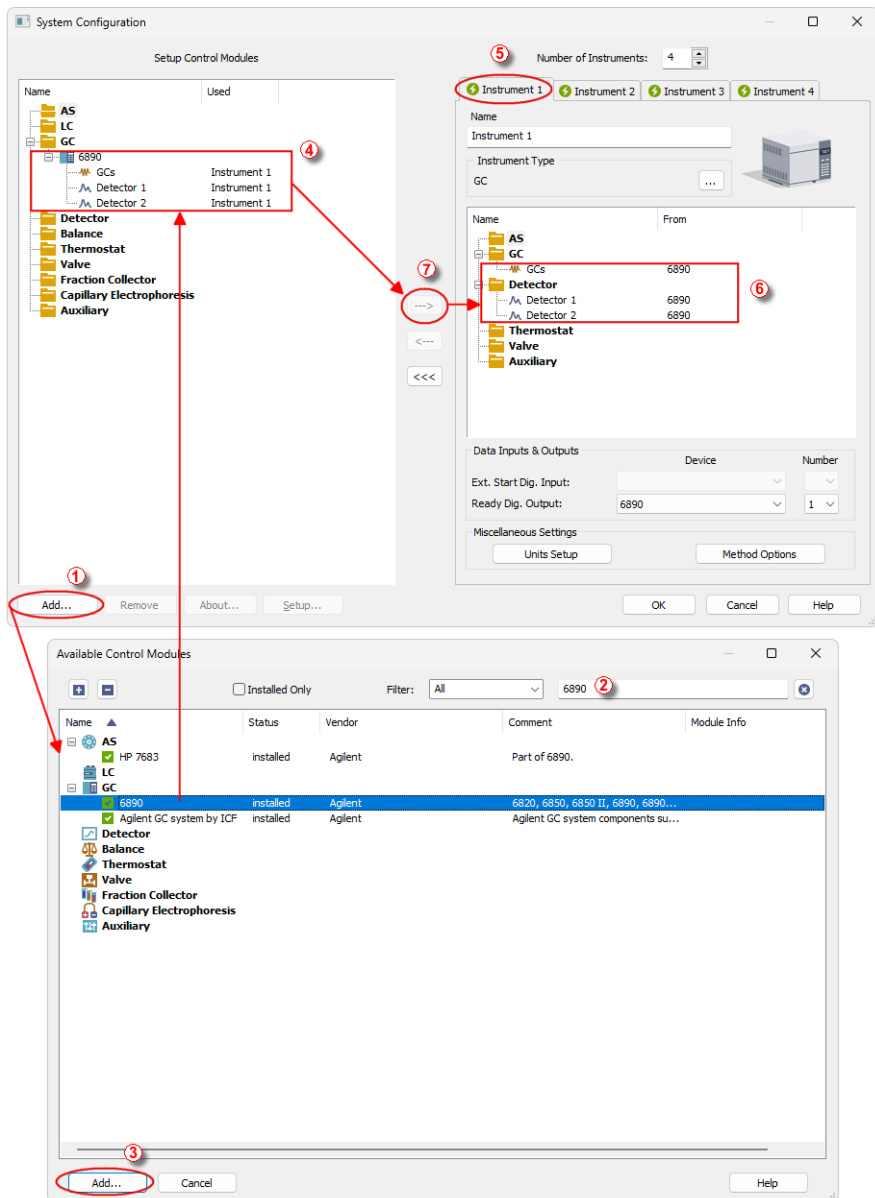

Fig. 3: How to add Agilent 6890
- Press the *Add* button ① (see **Fig. 3** on pg. 8.) to invoke the *Available Control Modules* dialog.
- You can specify the searching filter ② to simplify the finding of the driver.
- Select the **6890** gas chromatograph and press the *Add* ③ button.